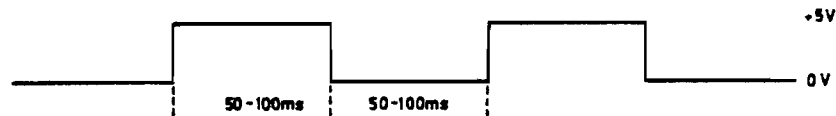

Fig. 4 SWP output.
31. With no r.f. signal input to channel A the SWP output is a rectangular waveform as shown in Fig. 4.